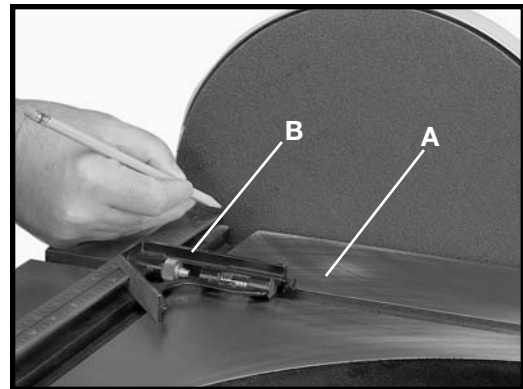

Fig. 33
2. With the table (A) Fig. 33 positioned 90 degrees to the disc, place a square (B) in the miter gauge slot with the blade of the square touching the sanding disc.
3. Use a pencil to mark the disc where the blade contacts it. (Fig. 33).